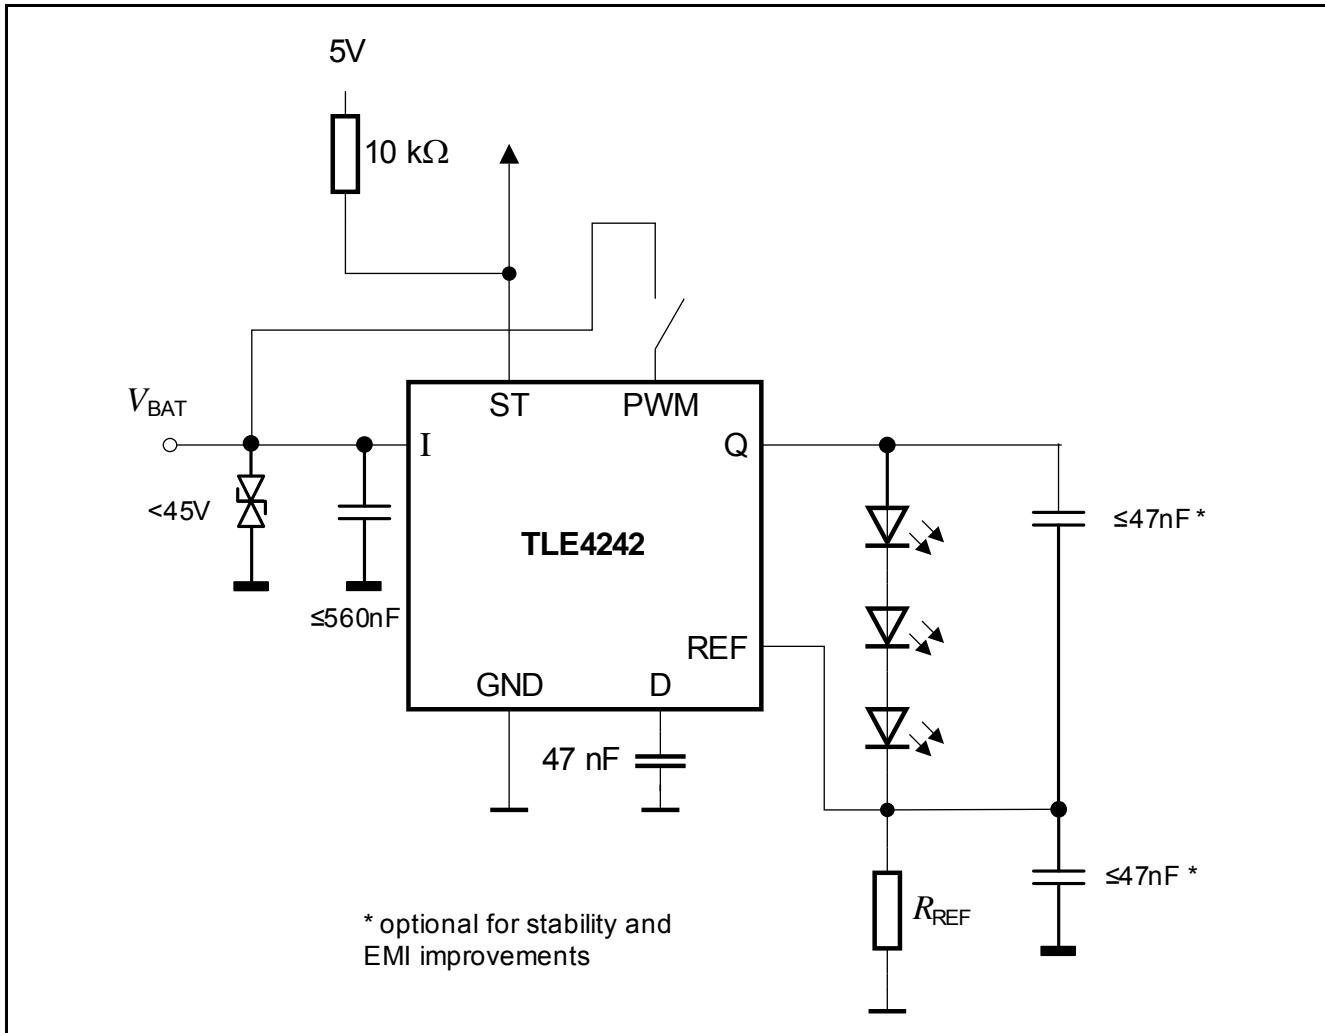

Figure 6-1 Application Diagram
The application example in Figure 6-1 shows a typical application with the TLE4242EJ LED driver. The three LEDs are driven with an adequate supply current adjusted by the resistor R_{REF} . Thus brightness variations due to forward voltage spread of the LEDs are prevented. The luminosity spread arising from the LED production process can be compensated via software by an appropriate duty cycle applied to the PWM pin. Therefore, selection of the LEDs to forward voltage as well as to luminosity classes can be spared. The minimum supply voltage for the application is the sum of the LED forward voltages, the TLE4242EJ drop voltage Minimum drop voltage \$V_{\text{dr}} = V_{\text{I}} - V_{\text{Q}}\$ and the max. voltage drop at the shunt resistor R_{REF} of $V_{\text{REF}(\text{max})}$ according to Reference voltage.
2) $V_Q - V_{\text{REF}}$ equals the forward voltage sum of the connected LEDs, see Figure 6-1